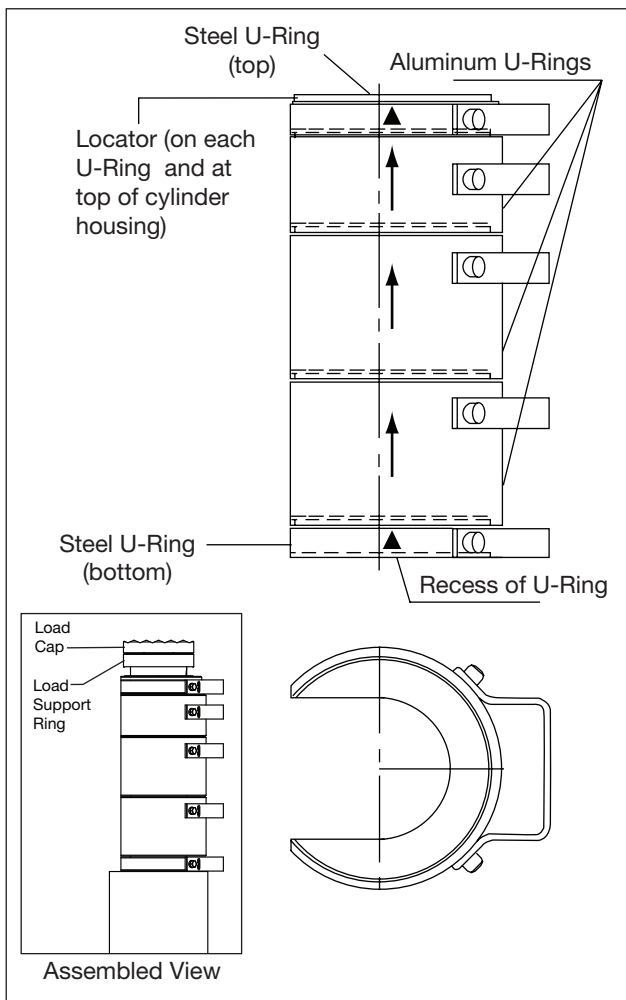

Figure 5, U-Ring Stacking Arrangement (typical)
5.6 U-Ring Stacking Instructions (See Figure 5)